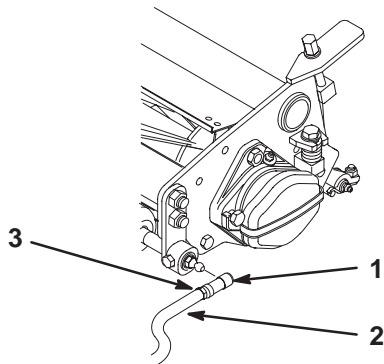

Figure 10
- Align the sockets in the ball joints so the open side of the socket is centered towards the ball stud. Tighten the jam nuts to secure the sockets in position (Fig. 10).